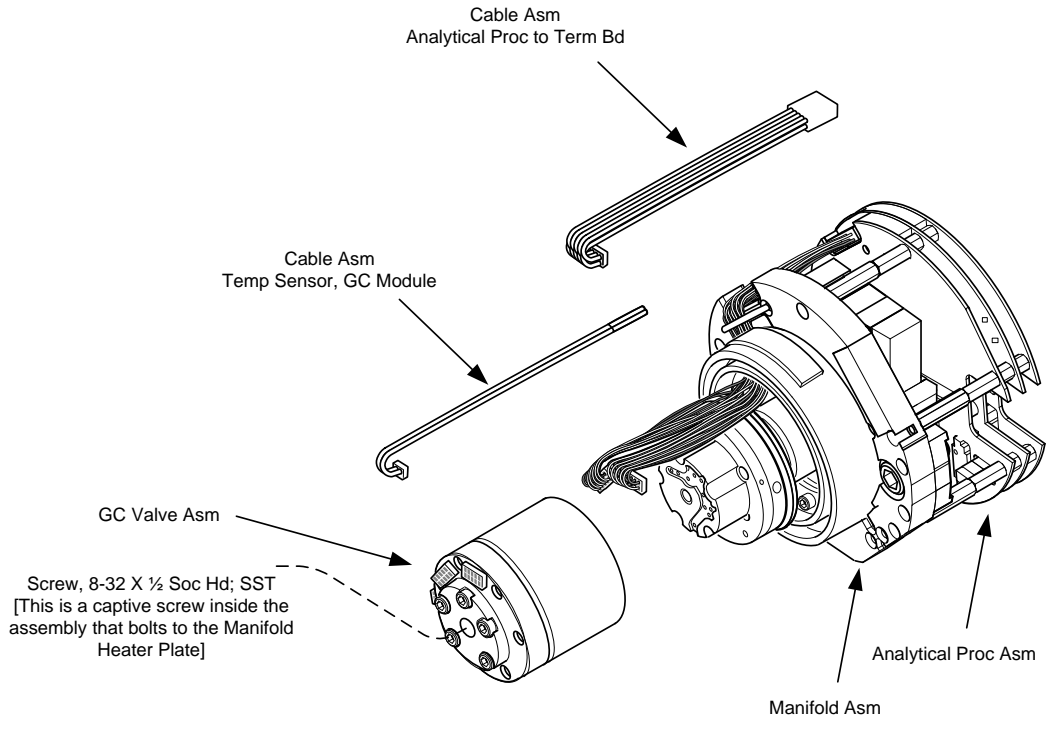

Figure 5-2 Analytical Module, Exploded
- Analytical module (12 or 24 VDC) with or without GC module (see Figure 5-2)